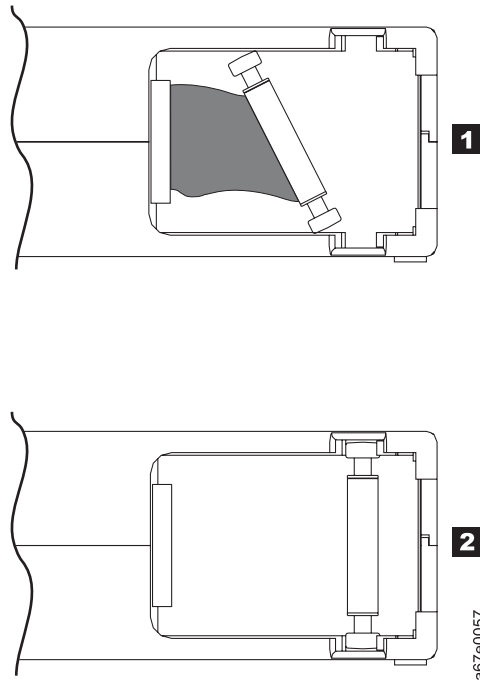

Figure 4-8. Leader pin in the incorrect and correct positions. The cartridge door is open and the leader pin is visible inside the cartridge.
- Check that the leader pin is properly seated (see **2** in Figure 4-8 on page 4-11).
- Do not drop the cartridge. If the cartridge drops, slide the cartridge door back and ensure that the leader pin is properly seated in the pin-retaining spring clips (see **2** in Figure 4-8 on page 4-11). If the leader pin has become dislodged, go to “Repositioning or Reattaching a Leader Pin” on page 4-10.
Example: Improper Placement of Leader Pin (see Figure 4-8 on page 4-11)
A leader pin that is improperly seated inside a cartridge can interfere with the operation of the drive. Figure 4-8 on page 4-11 shows a leader pin in the incorrect **1** and correct **2** positions.